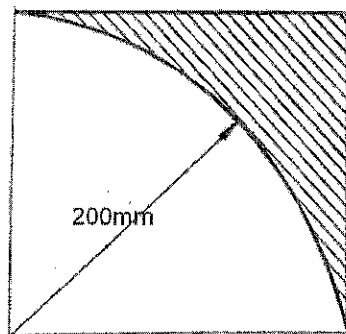

Figure 5
11. Locate the centroid of the shaded area shown in Figure 5